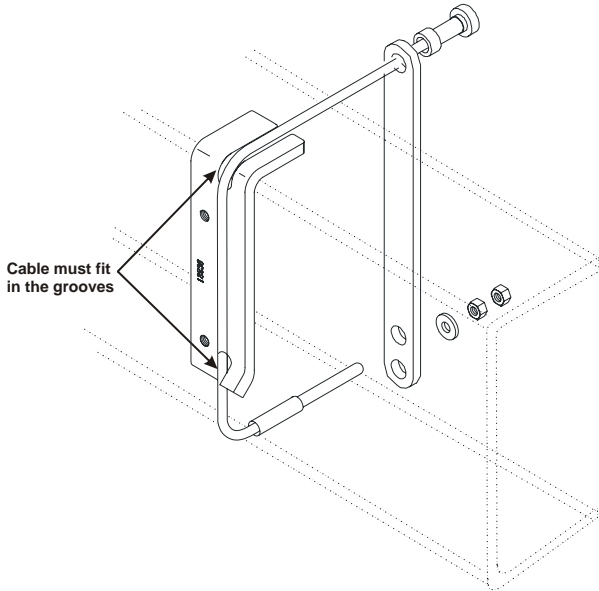

Figure 2.5
- Place the bar straps in position on the inside of the frame, one in front of the transmission cross-member and one behind, with the cable straps over the top of the frame (Figure 2.5).